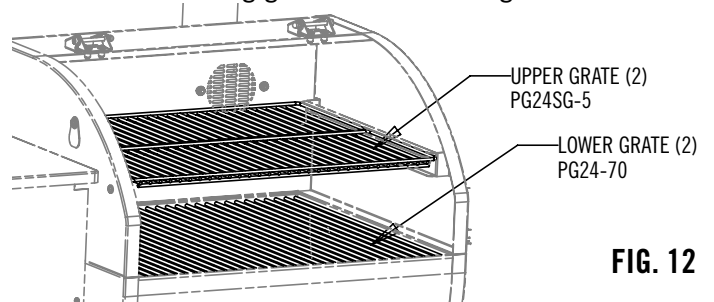

FIG. 12
1. Install the cooking grate as shown in Fig 12.